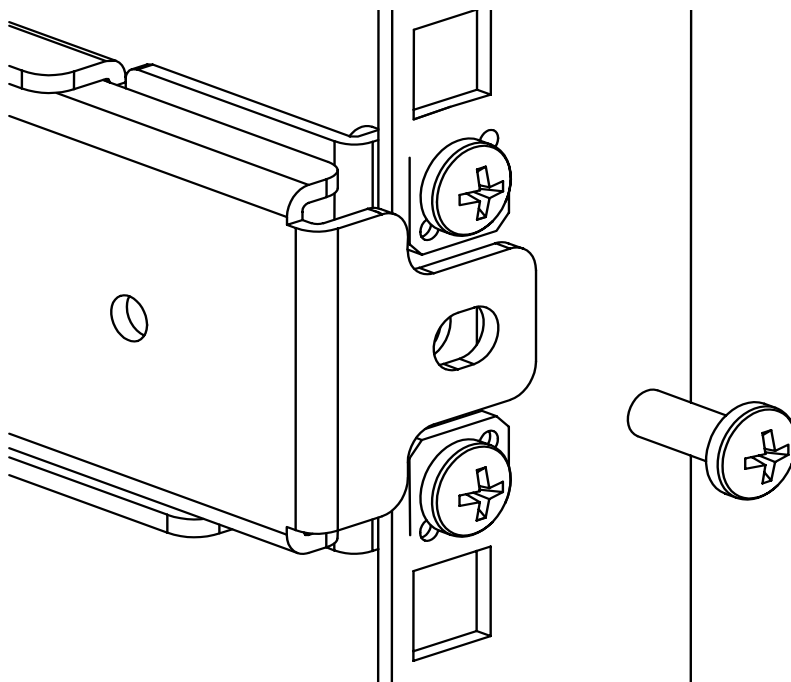
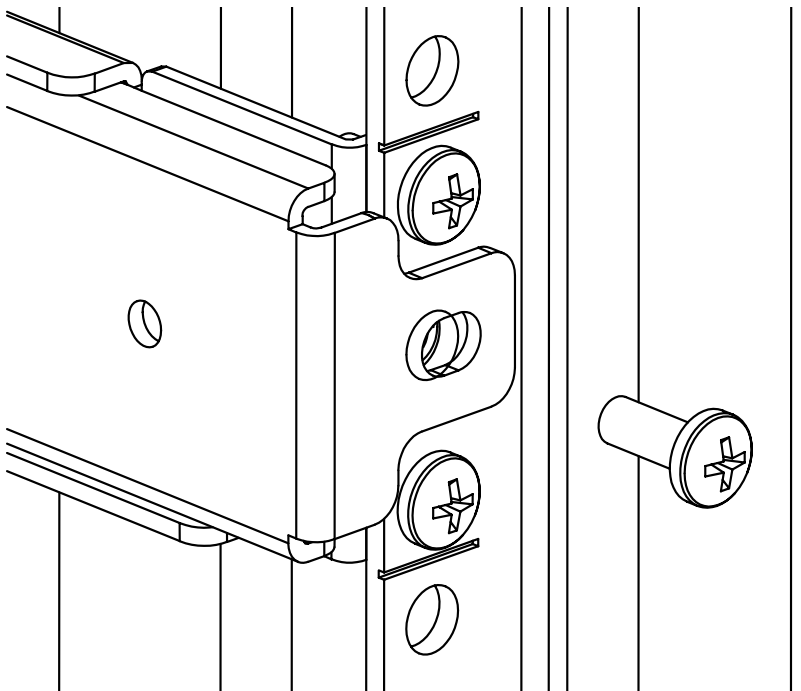

Figure 15 Installing the switch into a rack (HP 10,000 series rack)
Figure 16 Installing the switch into a rack (HP System/e rack)
11. Insert the switch into the rack and install (2) #10-32 x 1/2-inch Phillips pan-head screws with captive star lock washers with one on each side. See Figure 15 and Figure 16.